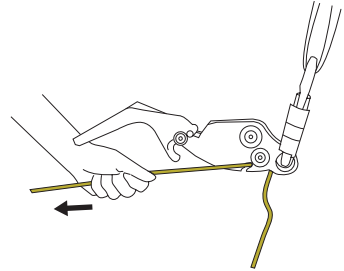

Fig. 5
6. Take up any slack in the line by pulling the free end of the line as shown in fig. 5.
After the line between the anchor and the person to be rescued is tightened as much as possible fig. 5, adjust the loaded fall protection equipment so that the person is lowered until his weight is fully onto the **SMARTLINE X**. Then the other fall protection equipment can be removed and the descent started.